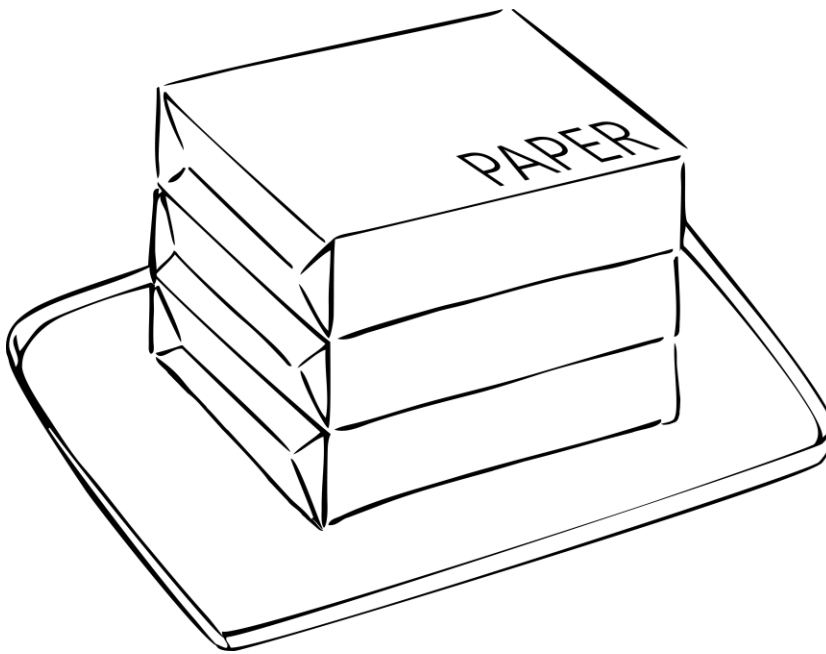

Figure 3: Paper tower set up.
- Set up one cookie sheet or tray at each table with three reams of paper stacked on top (see Figure 3)